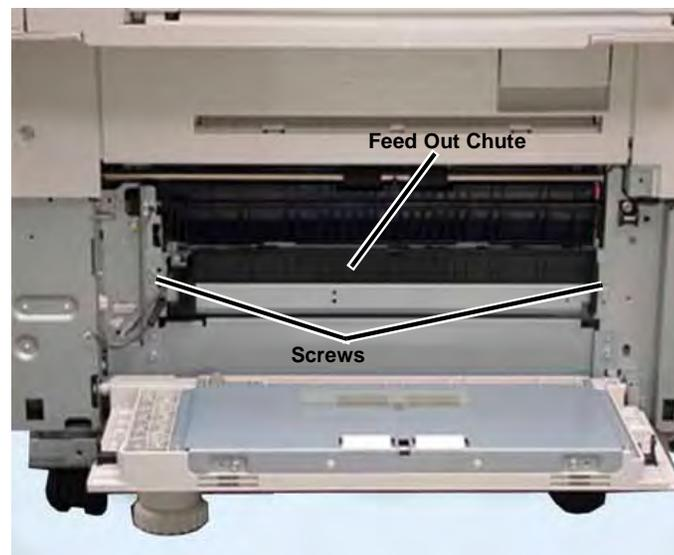

Figure 4 Removal
6. Perform the following (Figure 4).
- b. Remove Tray 3 Feeder left side mounting screws (2).